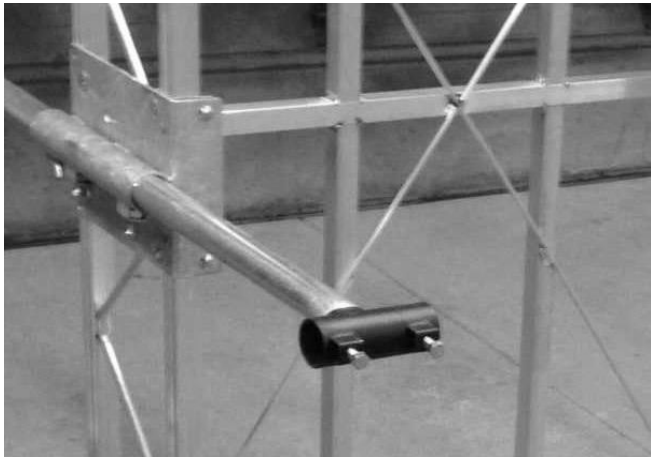
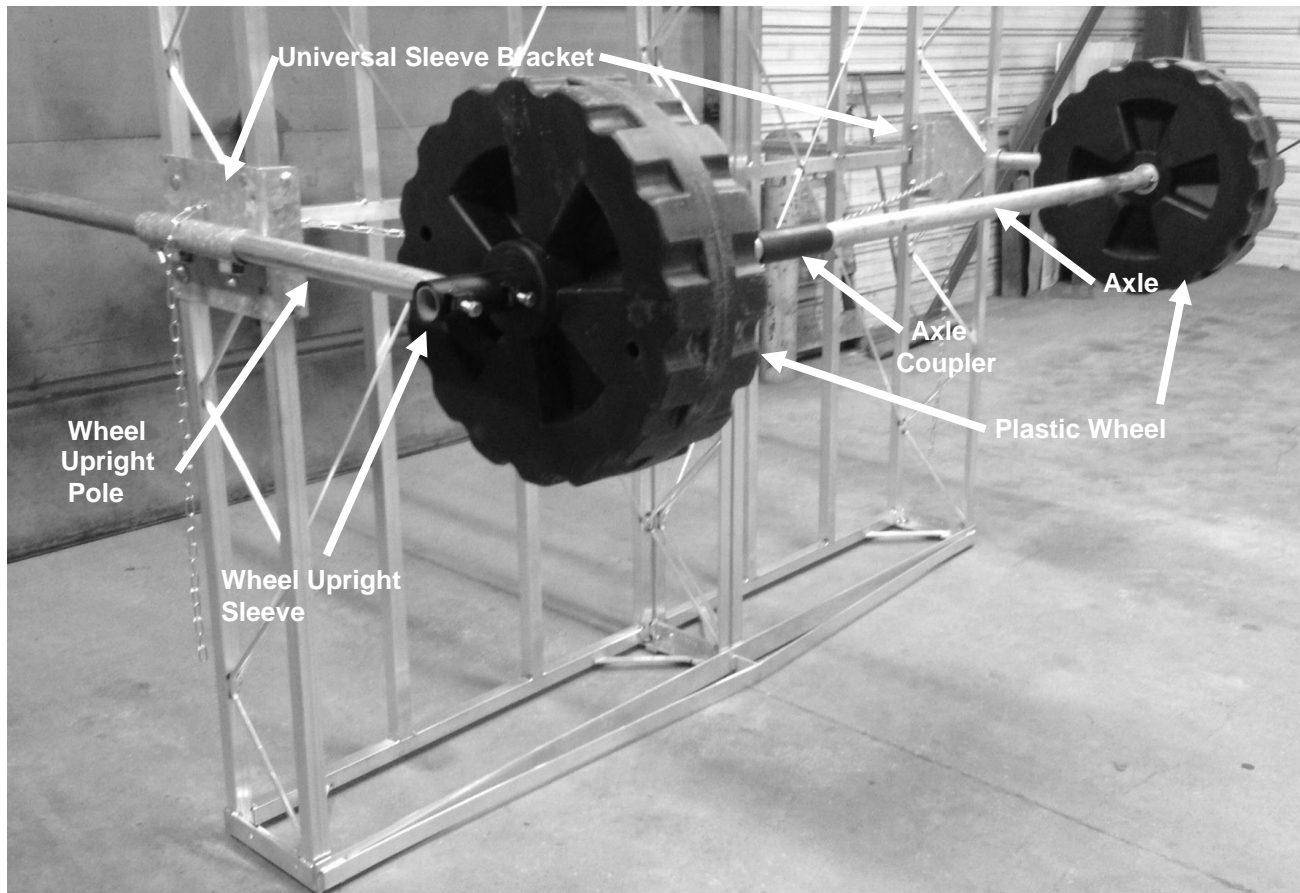
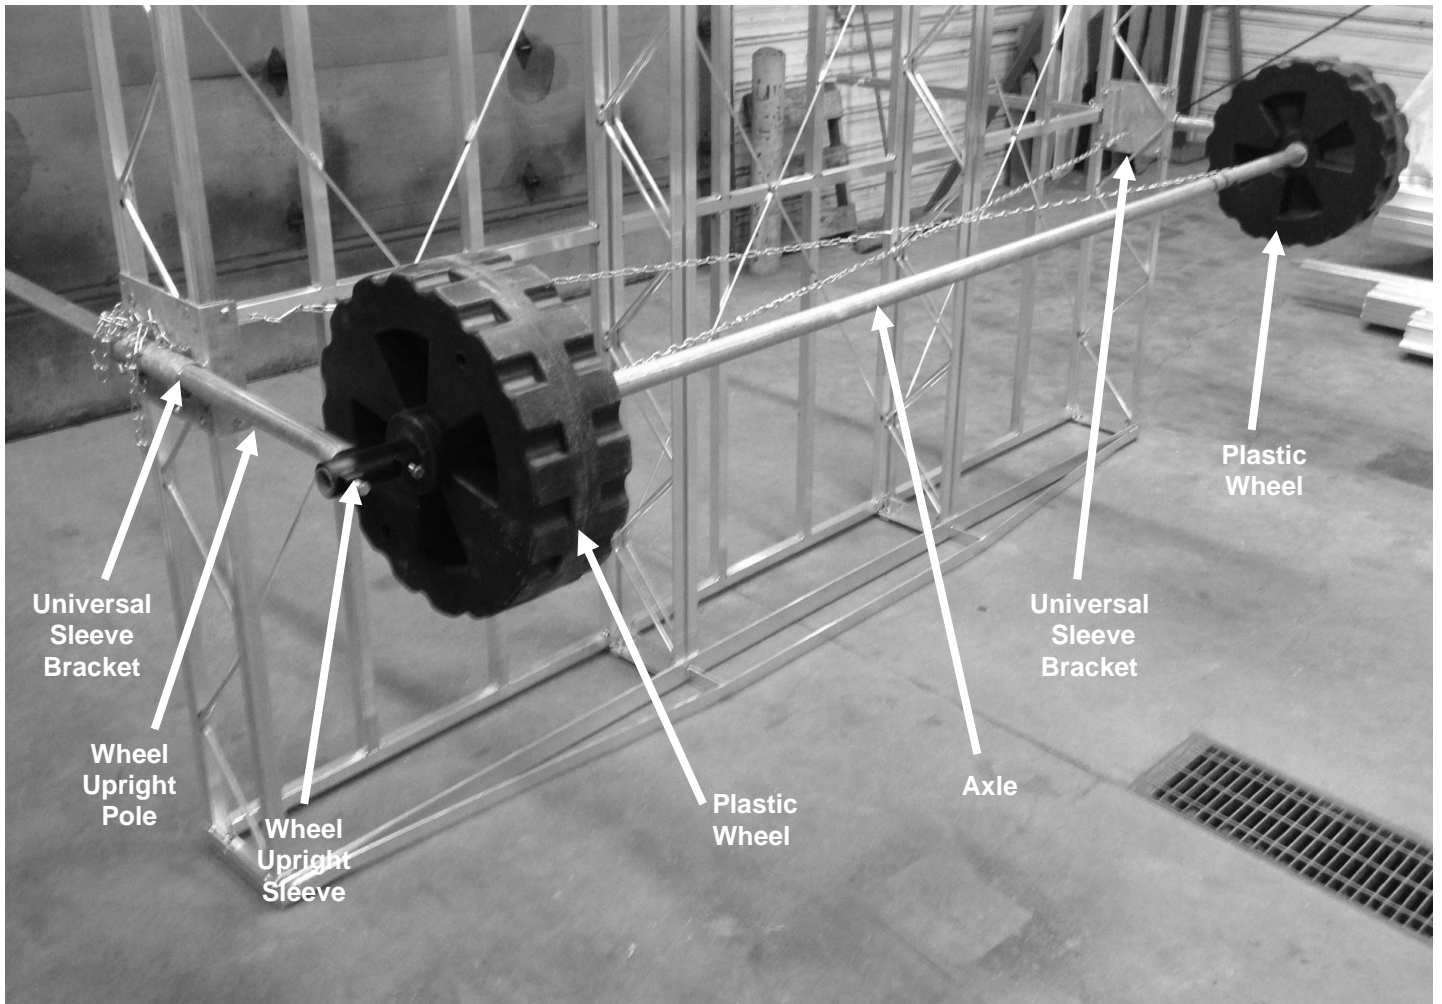

FIG. 19: Wheel Upright Pole
FIG. 20: Platform Assembly Components (Shown fully assembled)
FIG. 27: Super Platform Assembly Components (Fully assembled)
Stand the Frame Assembly Upright on its end. See FIG. 20. It is recommended to have a second person continue holding the frame assembly in this position while you install the rest of the wheel components. Slide each Wheel Upright Pole into the Universal/Upright Sleeve Bracket. See FIG. 19. Insert two ½” square nuts into the nut cages on side of the Universal/Upright Sleeve Bracket Assembly. Install two hex bolts ½” x 1-½” in the square nut cage. Finger tighten bolts. Repeat on other side of the frame assembly.
Stand the Frame Assembly upright on its end. See FIG. 27. It is recommended to have a second person continue holding the Frame Assembly in this position while you install the rest of the wheel components. Slide each Wheel Upright Pole into the Universal/Upright Sleeve Bracket. See FIG. 19 and 27. Insert (2) ½” square nuts into nut cages on side of Sleeve Assembly. Install (2) hex bolts ½” x 1-½” in square nut cage. Finger tighten only at this time. Repeat on other side of the Frame Assembly.